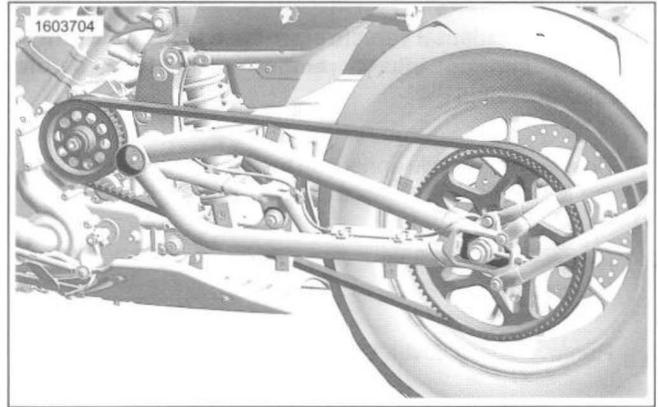

Figure 5-2. Drive Belt
2. See Figure 5-2. Remove drive belt from sprockets.
1. See Figure 5-2. Place drive belt in position on sprockets.